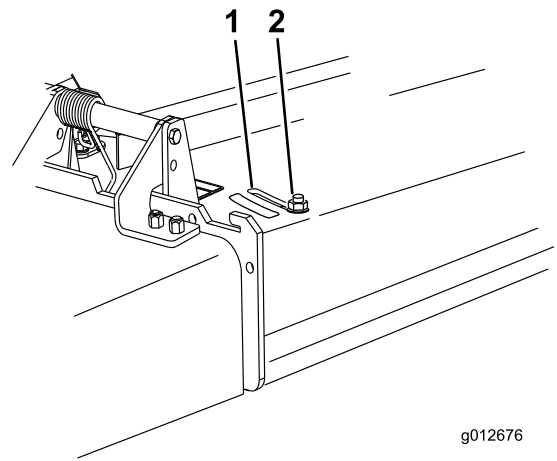

Figure 17
- To adjust the baffle, loosen the nut (Figure 17).